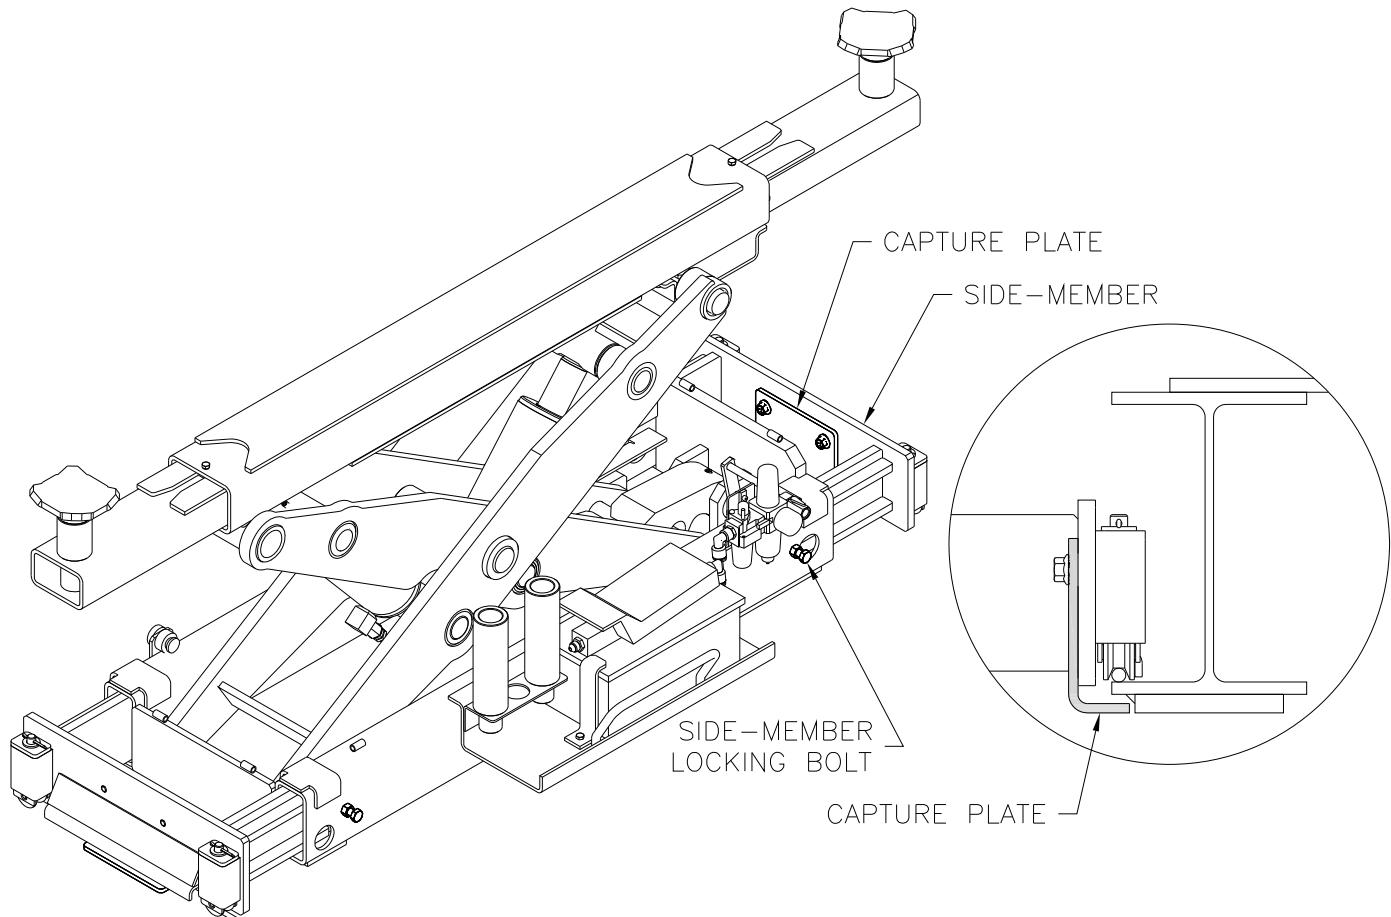

Fig. 2
- 2) Loosen side-member locking bolts, (4) hex head (17mm) bolt – 2 per side, and remove capture plates (4) hex head (9/16") bolt – 2 per side), Fig. 2.
- 3) Place jack assembly centered on lift rack rails and install capture plates as shown in Fig. 2.